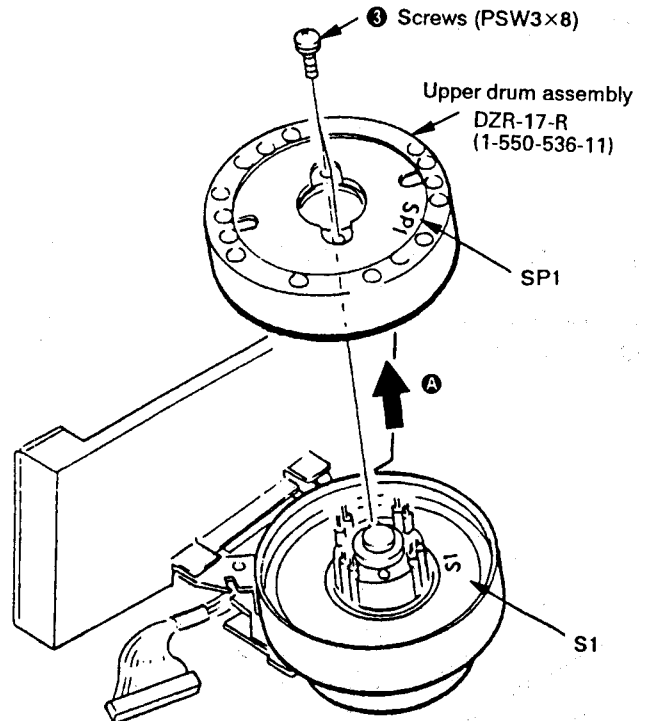

Fig. 5.
- 3) Remove two screws ③ (PSW3×8) and take out the rotary upper drum in the arrow direction A. (See Fig. 5.)
- 2) Mount the rotary upper drum board by aligning SP1 with S1 of rotary transformer board (lower drum) so that the screw holes of both upper and lower drums match. (See Fig. 5.)
- 4) Tighten two screws ③ (PSW3×8). (See Fig. 5.)